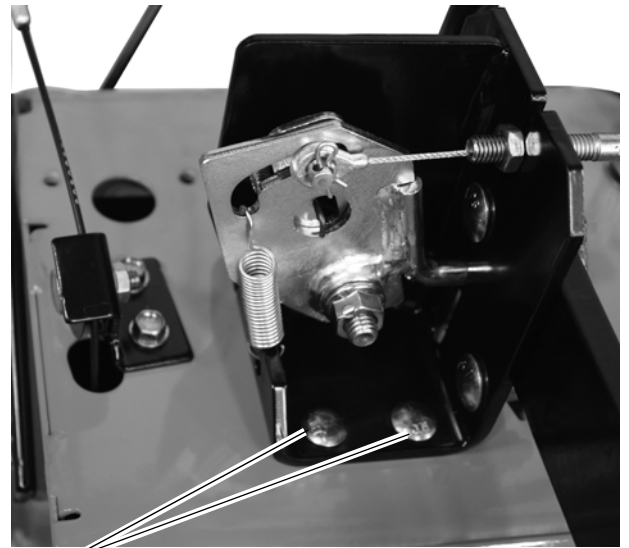

Figure 15
21. Rotate trigger lock assembly up to meet back of frame. Align holes drilled in step 8 to holes on bracket. Install head of 1/4" x 3/4" round head square neck bolts (item 16) through holes in height adjuster bracket, and through drilled holes from exterior of unit. Install 1/4" flange nut (item 15) onto all four bolts. See Figure 15.